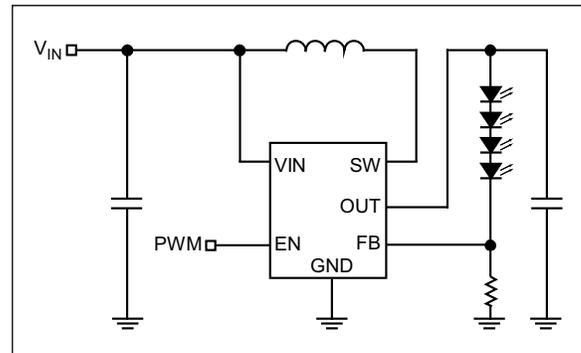

FIGURE 4-1: PWM Dimming Method.
1. PWM dimming control is implemented by applying a PWM signal on EN pin as shown in Figure 4-1. The MIC2289 is turned on and off by the PWM signal. With this method, the LEDs operate with either zero or full current. The average LED current is increased proportionally to the duty-cycle of the PWM signal. This technique has high efficiency because the IC and the LEDs consume no current during the off-cycle of the PWM signal. Typical frequency should be between 100 Hz and 10 kHz.